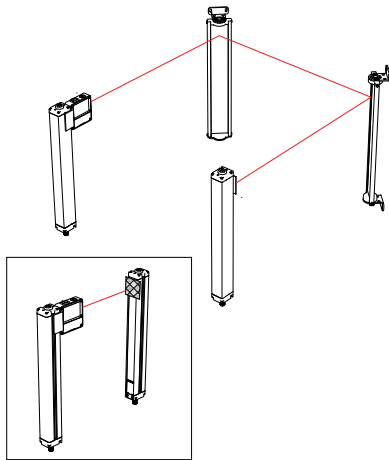

Figure 22. Optical alignment using the LAT-1-SS
**Note:** A LAT-1-SS Laser Alignment Tool is very helpful by providing a visible red dot along the optical axis. See Figure 22 on page 38 and Banner Safety Applications Note SA104 (p/n 57477) for further information.